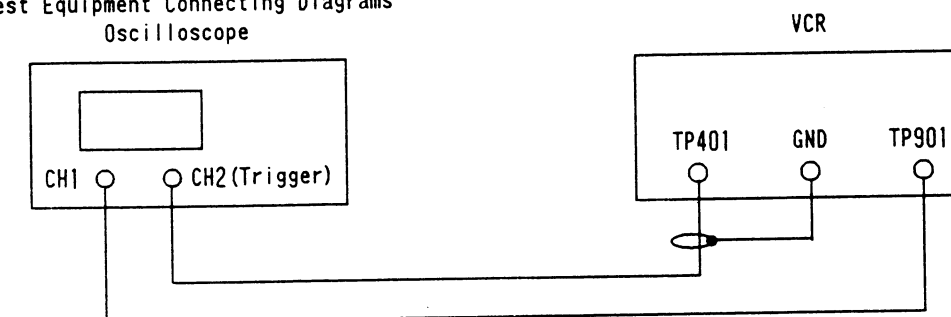

Fig. 2-8
1. Connect the equipment as shown in Fig.2-8.